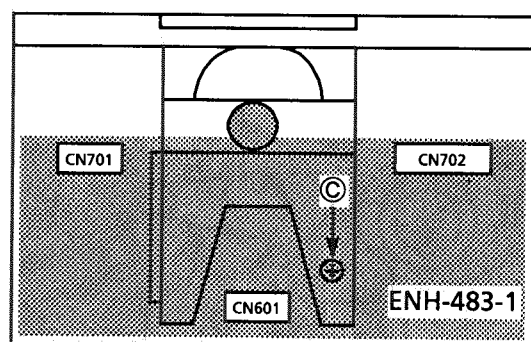

Fig. 3 UP SIDE
2. Disconnect the CN701 and CN702. (Fig.3)
3. Remove the 2 screws ⑥.
4. Release the hooks ⑦ holding the front panel, and remove the front panel assembly.